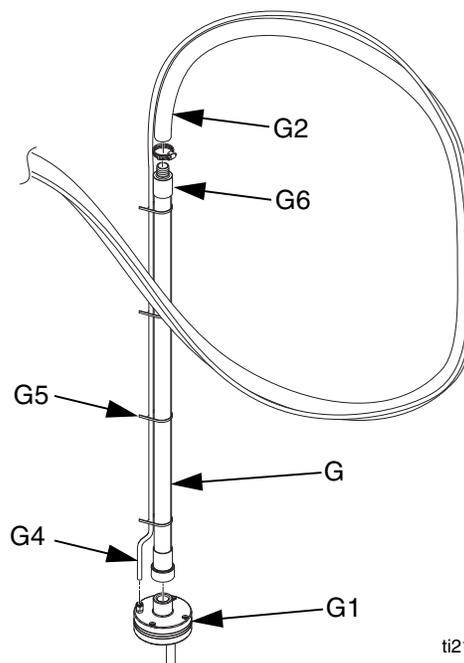

FIG. 8
6. Apply pipe sealant to threads then attach steel shaker tube (G) to shaker head (G1). See FIG. 8.
7. Attach 1.3 in. (33 mm) clear vacuum transfer hose (G2) to steel shaker tube (G) and secure with supplied hose clamp. See FIG. 8.
8. Route the 3/8 in. OD air line (G4) alongside the 1.3 in. (33 mm) clear vacuum transfer hose (G2) and secure at multiple points with the supplied zip ties (G5). See FIG. 8.
NOTE: If static buildup on feed tube (G) is excessive, install optional feed tube ground kit 24R708 to feed tube end (G6). See FIG. 8.